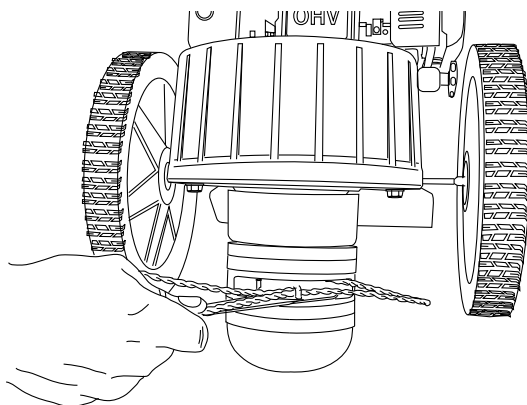

Figure 9
3. Pull the ends of the cord under the loop and push the loop up into the line cord ends plate groove above them (Figure 9) and then pull the ends tight.